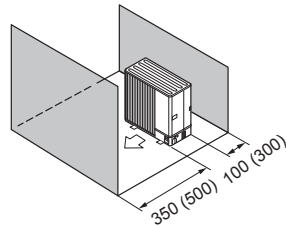

Fig. 1-10
- ⑤ Obstacles at front and rear only (Fig. 1-10)